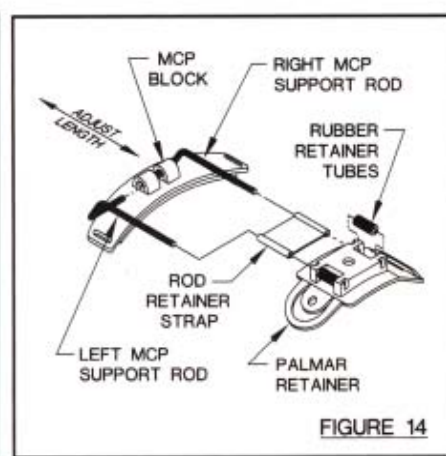

FIGURE 14
- 2 Insert right and left MCP Support Rods into MCP Block see **Figure 14**.
- 3 Slip rod retainer strap onto long end of MCP support rod. Push forward so that it is half onto first bend in rod see **Figures 14 & 15**.
- 4 Position rubber retainer tubes between insertion holes on palmar retainer see **Figure 14**.